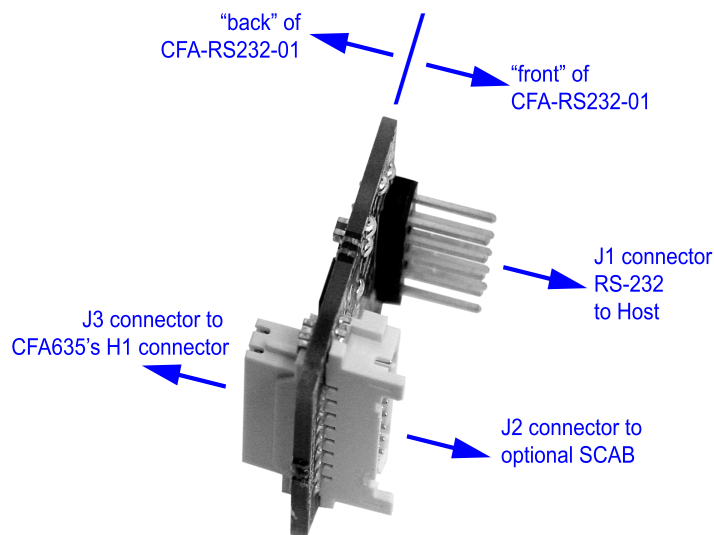

Figure 9. CFA-RS232-01 Serial Converter (Side View)
1. The H1 male 16-pin 2 mm connector mates with the J3 female 16-pin 2 mm connector on the CFA-RS232-01 Serial Converter. For location of J3 connector, see Figure 9. on Pg. 25). For pin assignments, see H1 Pin Assignments - Includes GPIO Connections \(Pg. 29\).